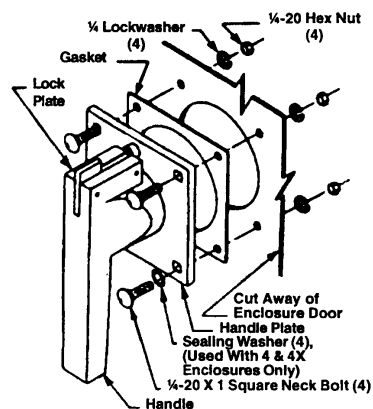

Figure 19 Handle on Door
1. Attach the handel and gasket to the enclosure door and secure with the four bolts, lock washers and nut as shown in Figure 19. Tighten to 75 in-Lbs.
Note: there is an additional lexan spacer on the handel not shown in the Figure 19, do not remove.